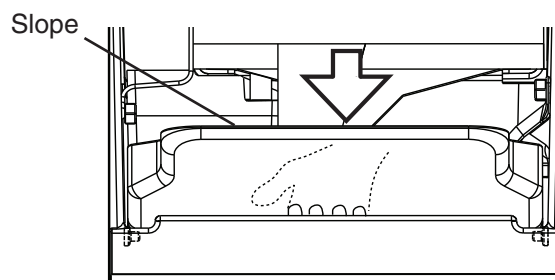

Fig. 46
- 17) Replace the slope in its correct position. See Fig. 46.